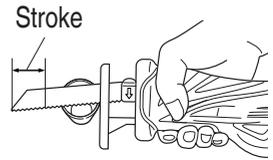
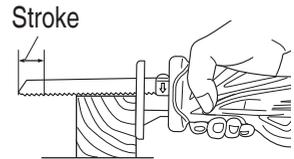

Fig. 20
Fig. 21
- Select a saw blade of the most appropriate length. Ideally, the length protruding from the base of the saw blade after subtracting the stroke quantity should be larger than the material (see Fig. 20 and Fig. 21).